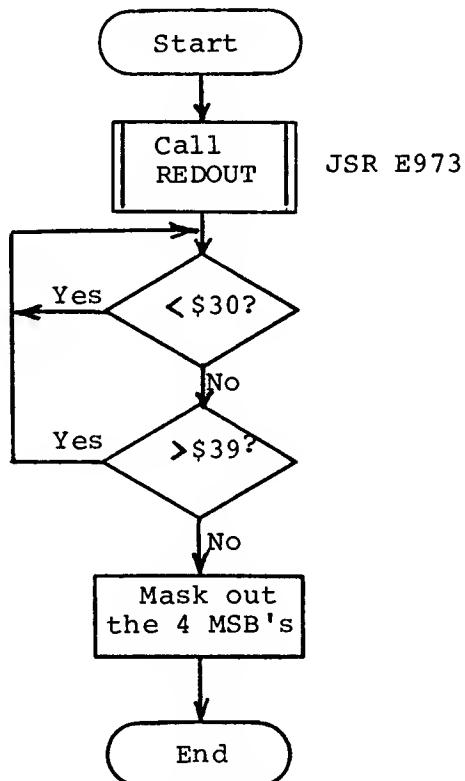

Figure 11-3. Keyboard Decimal Input Program
1. You are to develop a program that inputs a decimal digit from the keyboard into the Accumulator, and converts it from ASCII to a four-bit binary value. Your program should input the keyboard digit by calling the AIM 65 Monitor's REDOUT subroutine (JSR E973), and should ignore any non-decimal character that is entered. Figure 11-3 shows the flowchart for this program.